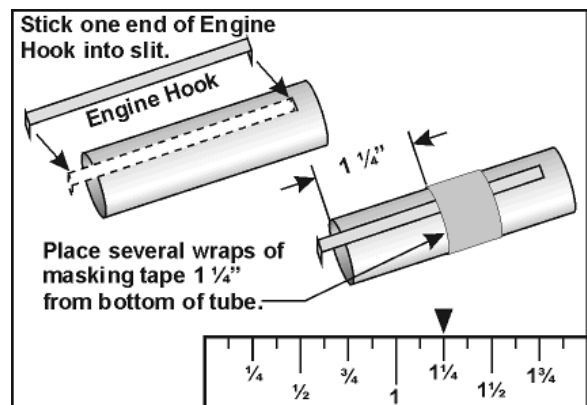

Figure 2
2. Locate the **Engine Hook** and insert one end of it into the slit you made as shown in **Figure 2**. (**Thing-a-ma-FACT:** The **Engine Hook** is used to help hold the rocket motor inside the engine tube)